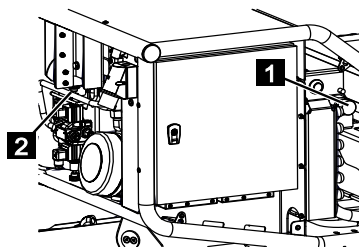

Fig. 210
2. After service mode, screw the valve [LS] (Fig.210/2) out again completely and unlock the valve [outrigger, crawler] (Fig.210/1) by turning it anti-clockwise. Screw the covers back into place.